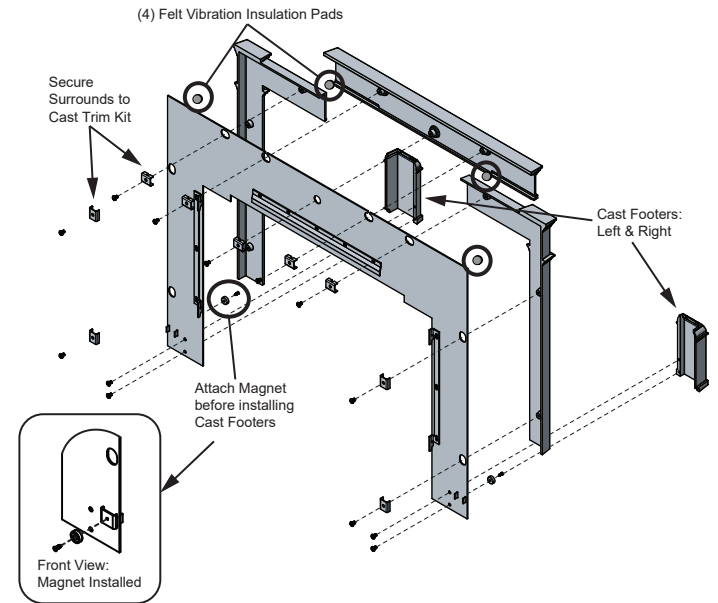

Figure 22.2
3. Place the peel and stick round felt vibration insulation pads on the front side in each corner of the top metal piece and on the back side in each corner of the top cast piece (**Figure 22.2**).